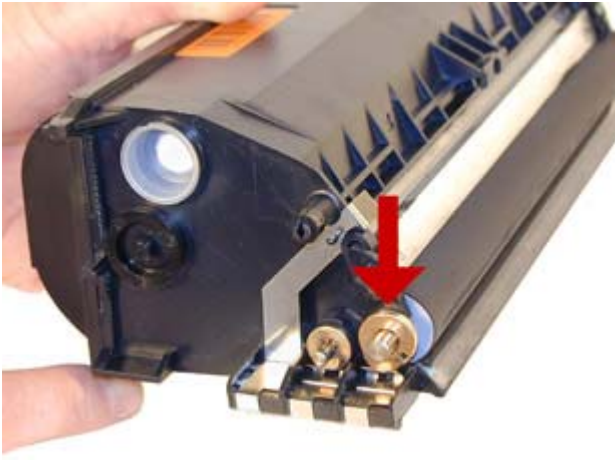

Figure 17
18) On the left side of the Developer Roller there is a small metal copper colored bushing, take a small screwdriver, press the contact plate down and pry the bushing off the shaft. See Figures 17 & 18